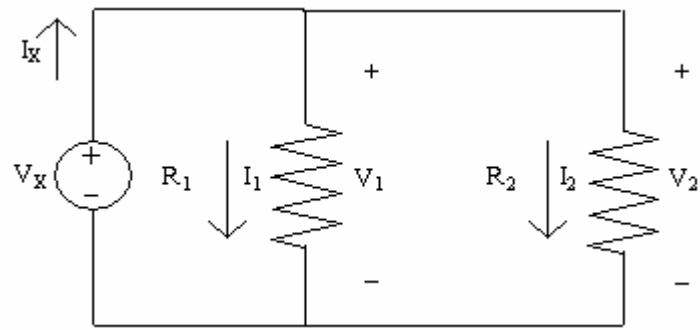

Figure 17
- a. Build the circuit shown in figure 17. Set V_x to be 7 V and $R_1 = R_2 = 1$ k.